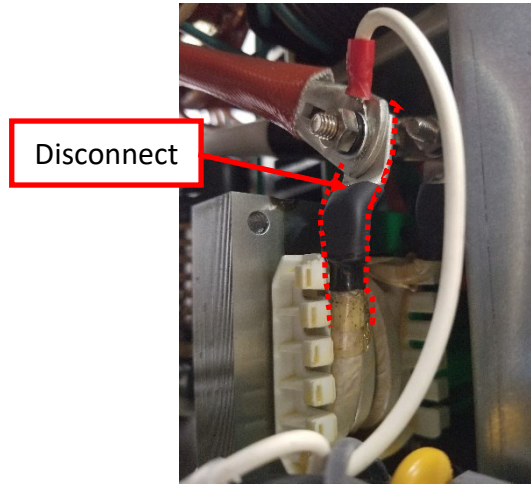

Figure F.2
- A.2. Label and disconnect the following connections, refer to Figure F.2.